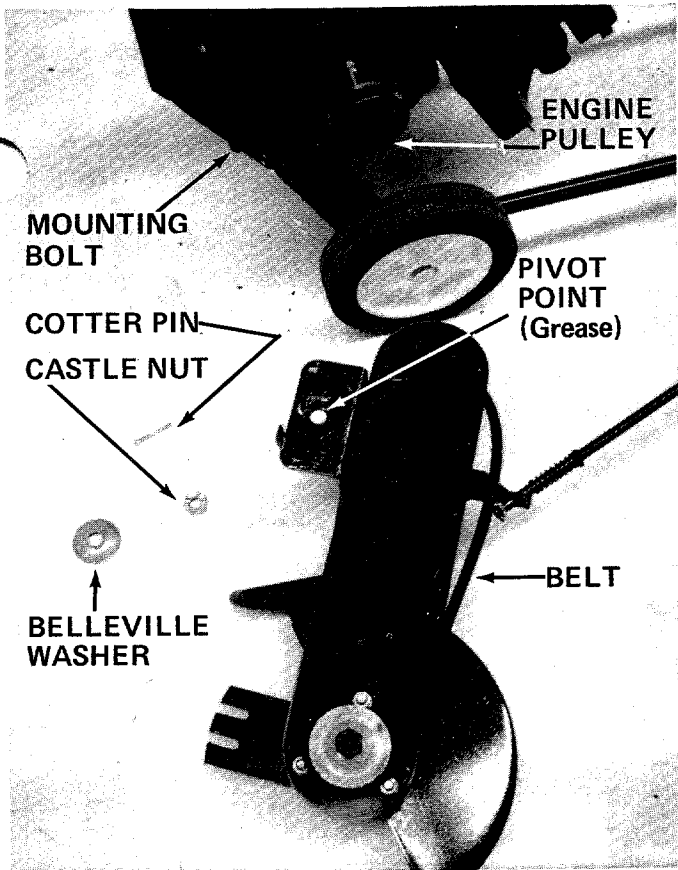

FIGURE 15.
3. Lift off the hex castle nut, belleville washer and belt cover. See figure 15.
While the belt cover is removed, it is a good idea to apply a little grease to the pivot point on belt cover. See figure 15.
6. When tightening the castle nut, only tighten enough to line up hole in bolt for cotter pin. **DO NOT OVER TIGHTEN.** Belt cover must pivot freely. See figure 15.